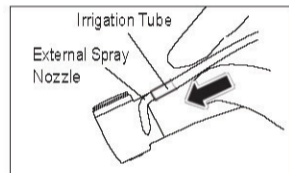

Fig. 5
- Connect the Irrigation Tube to the External Spray Nozzle firmly. (Fig. 5)